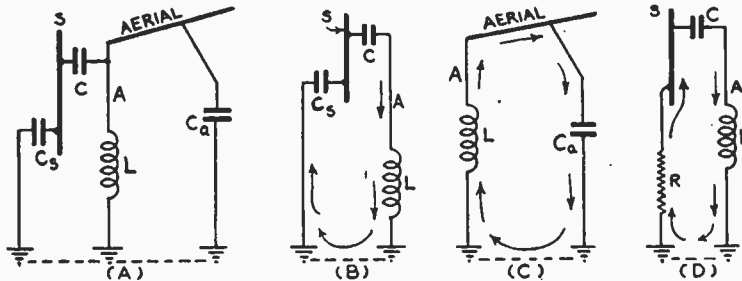

FIG. 5
It is evident that the 20 or more feet of metal shielding (depending upon the length of the lead-in) surrounding the central lead-in wire may act as an independent receiving aerial which will pick up both signals and electrical disturbances (mostly the latter). Furthermore, this 20 or more feet of metal shielding surrounding the central lead-in wire and separated therefrom by rubber insulation (which is a good dielectric having a dielectric constant of about 3) forms a "condenser" of appreciable capacity, C , distributed along the entire length as shown at (A) of Fig. 4. This shielding also has a capacity, C_a , to ground, and the aerial wire has a capacity, C_s , to ground. These are all shown in the illustration. The equivalent electrical circuit which results is shown at (A) of Fig. 5 where A represents the lead-in, S represents the shield and L is the primary of the antenna coil in the receiver. Keeping in mind the fact that signal voltage is induced in the aerial wire and both noise and signal voltage is induced in S , it is evident that we have here two possible oscillating circuits, each one having its own natural resonant frequency determined by its inductance and capacity. One of these circuits consists of the aerial (in which the *signal* voltage is induced), C_a , the "ground," and L , as shown at (C) of Fig. 5. Notice that the *signal* current flows through the receiver coil when it oscillates in this circuit. The other oscillating circuit consists of S (in which the noise voltage is induced), C , A , L , the "ground," and C_s , as shown at (B). Notice that since receiver coil L is also in the path of the noise current which will flow through this latter circuit, the effectiveness of the shield in eliminating noise pickup is greatly reduced. These interfering oscillating currents can be suppressed by grounding the shield at both ends (and at intermediate points along it if possible) so that its entire length will be maintained at as nearly ground potential as possible. Since it is usually very inconvenient to make such a "ground" connection to the top end of the shield in actual installations, most manufacturers of shielded antenna kits resort to a different method of accomplishing the same result. The shield is grounded at the receiver end only, and a high resistance is connected in series with this ground lead (as shown at (B) of Fig. 4). Connecting this resistance in this way has the effect of introducing it directly in series with the oscillating circuit formed by the shield, antenna coil and ground, as shown at (D) of
Fig. 5, and it therefore suppresses the noise currents in this circuit. In some cases, a suitable r-f choke is used instead of a resistor for this purpose (see Fig. 6). Unfortunately, this resistance also reduces the effectiveness of this ground connection to the shield in bypassing the inductive interference currents to ground, but in actual commercial shielded antenna kits some sort of compromise is at-